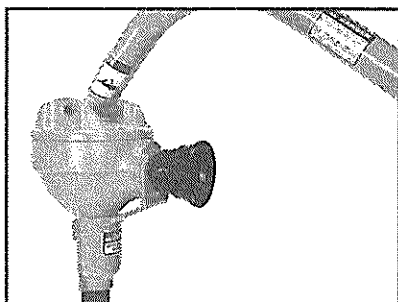

FIG. 7 - INPUT SHAFT GUARD
STEP 9: Slide the input shaft guard (PN 6057) over the gearbox pinion (see Fig. 7). Slide the nonsplined end of the driveline over the gearbox pinion shaft and secure with 5/16-18 shear bolt PN 6015. Drive roll pin PN 6061 through the hole in the input shaft guard and into the end yoke so it rides in the groove in the pinion (the roll pin retains the driveline if the shear bolt breaks and falls out).